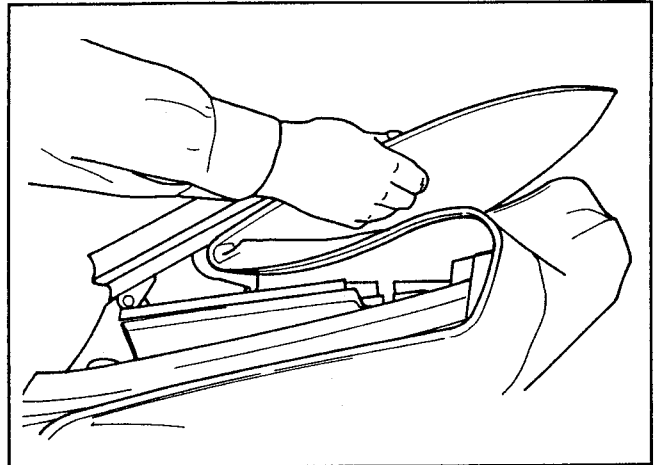

Figure 17. Raise Top
3. Lift the top stack by the 1-bow up and out of the stowage compartment. Raise it until the 1-bow nears the windshield header (Fig. 17).